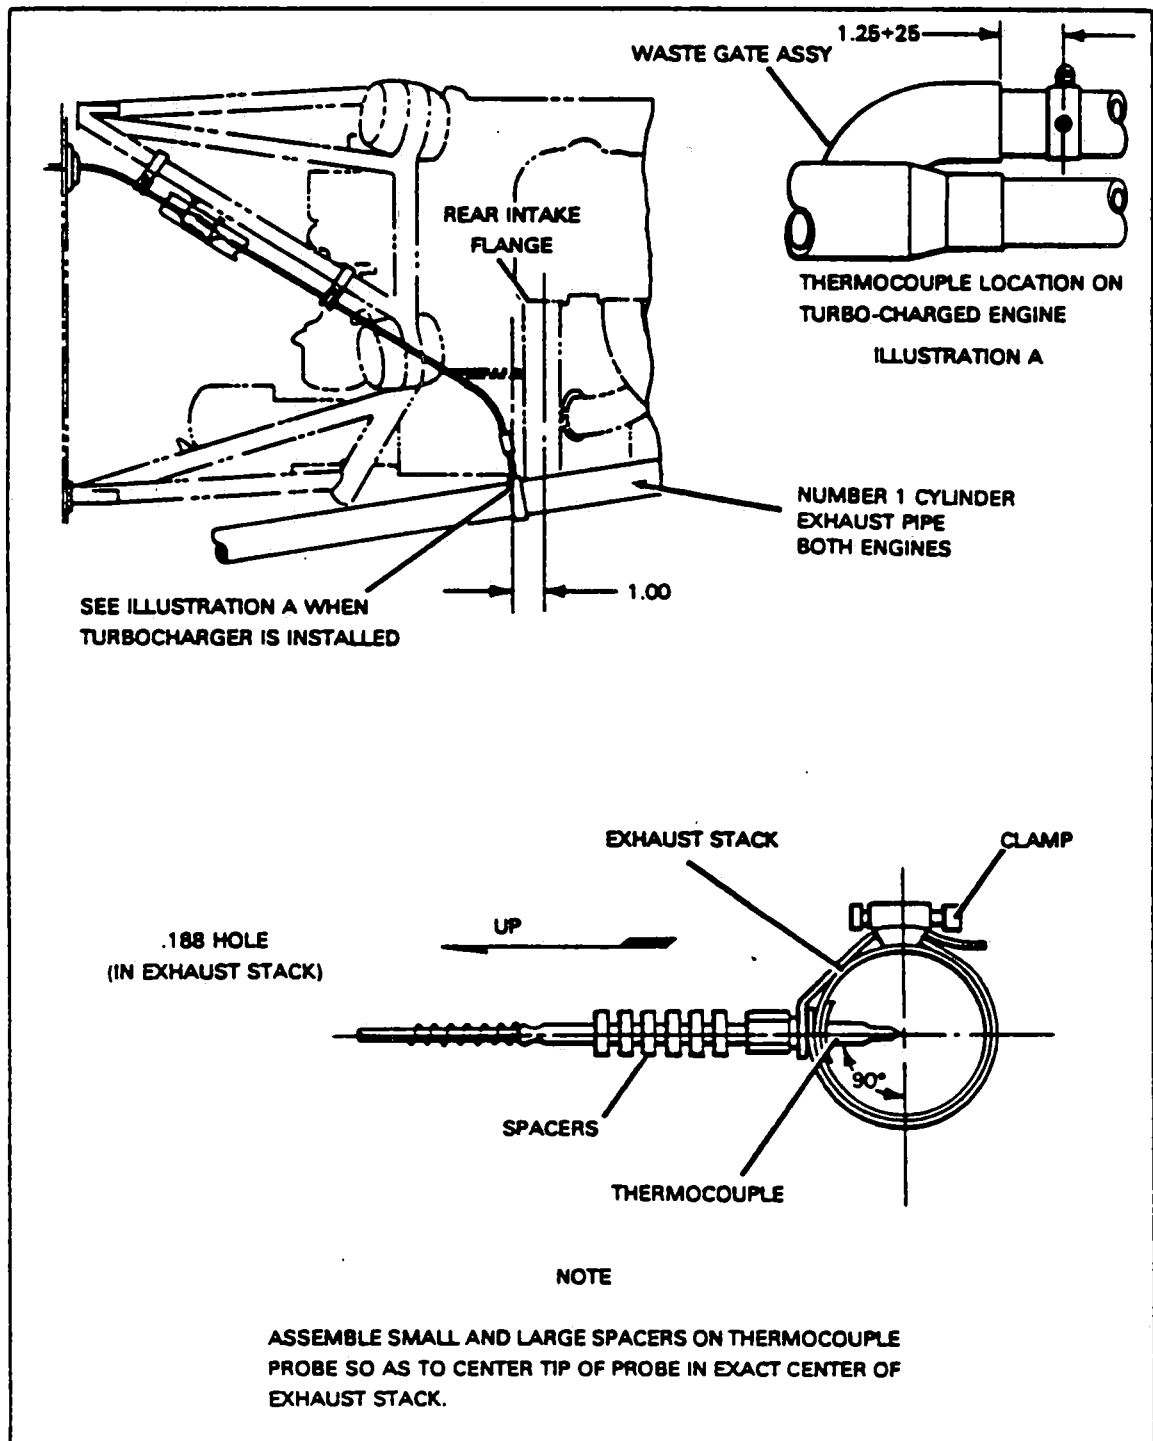

Figure 10-5. EGT Thermocouple Installation
1. Detach the thermocouple leads from the extension lead if necessary. (Do not detach if the probe can be removed and cleaned with leads attached.) (Refer to Figure 10-5.)